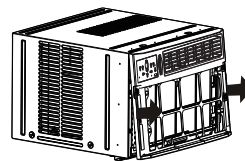

Fig. 3
4. Push metal cabinet side to release plastic tabs on each side of front panel (see Fig.3).